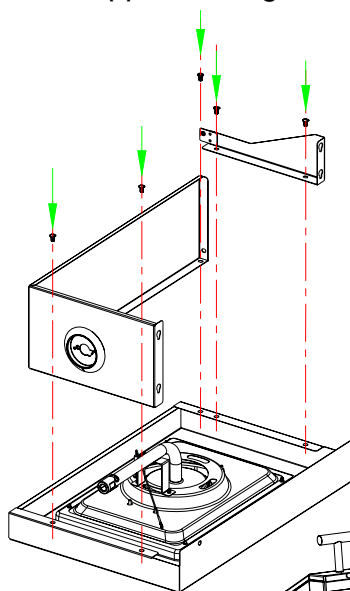

Fig.10a
1. Attach right side shelf support and right side shelf wall to the right side shelf with five(5) M5 x 10 screws from up to down as shown in Fig.10a.